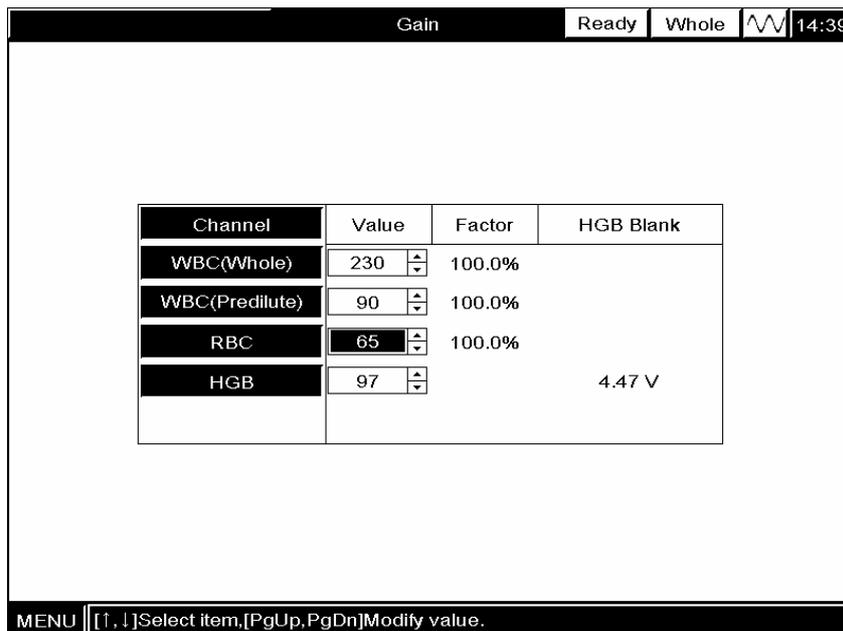

Figure 5-32 Setting RBC gain
2. Enter the “**Gain**” screen and **ENTER** a number into the “**RBC**” box, as Figure 5-32 shows, so that RBC “**Factor**” is as close to 109.8% as possible.